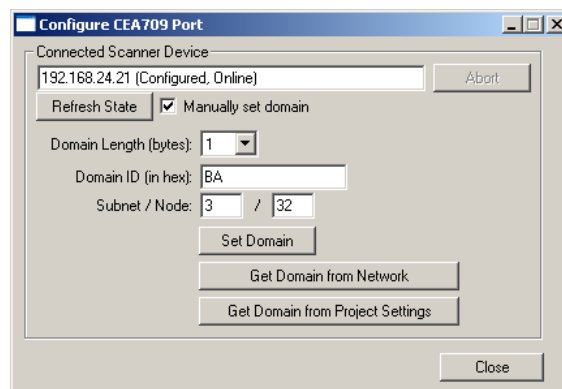

Figure 106 : Configure CEA-709 port dialog.
4. If the device has not been installed with a network management tool (e.g. LNS-based tool), press the **Configure CEA709 Port** button. This opens the device install dialog as shown in Figure 106.